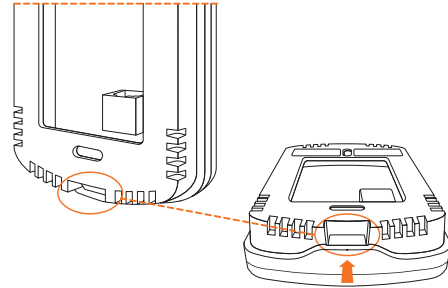

Figure 1
1. Open casing to remove back cover by pushing on the tab located underneath the thermostat. (See Figure 1)